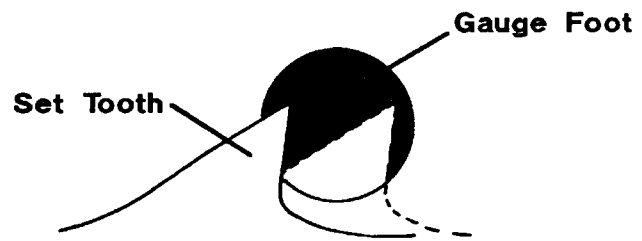

FIG 2-54
4. Rotate the blade around the supports until a tooth set toward the dial indicator is positioned in front of the gauge foot. Clamp the blade so the tip of the tooth is located to one side of the gauge foot (See Figure 2-54). Note the reading on the dial indicator, unclamp the blade and move so the tip of the same tooth is located on the other side of the gauge foot. Reclamp the blade and check the dial reading again. When the gauge foot is properly aligned in the horizontal plane, these two readings will be identical ($\pm .0005$). If adjustment is necessary, realign the gauge per the following instructions.